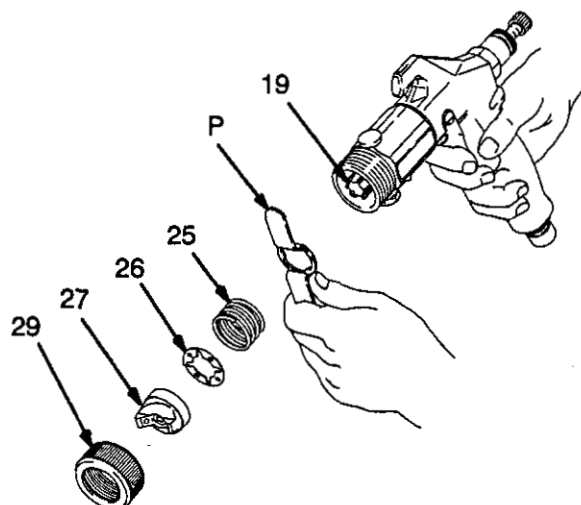
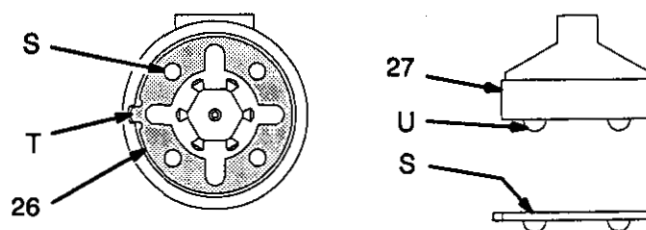

Fig. 20
Fig. 22
2. Remove the air cap retaining ring (29), air cap (27), spring (25), and detent plate (26). See Fig. 20.
3. Trigger the gun while you remove the fluid nozzle (19) with the nozzle wrench (P), provided. See Fig. 20.
6. Trigger the gun while you install the fluid nozzle (19) with the nozzle wrench (P). See Fig. 20.
7. Install the spring (25) into the front of the gun.
8. Install the detent plate (26) into the gun housing with its open sockets (S) facing up; align the detent plate tab (T) with the notch in the gun housing. See Fig. 22.
9. Install the air cap (27), aligning the air cap balls (U) with the detent plate sockets (S). See Fig. 22. Secure the air cap with the air cap retaining ring (29).